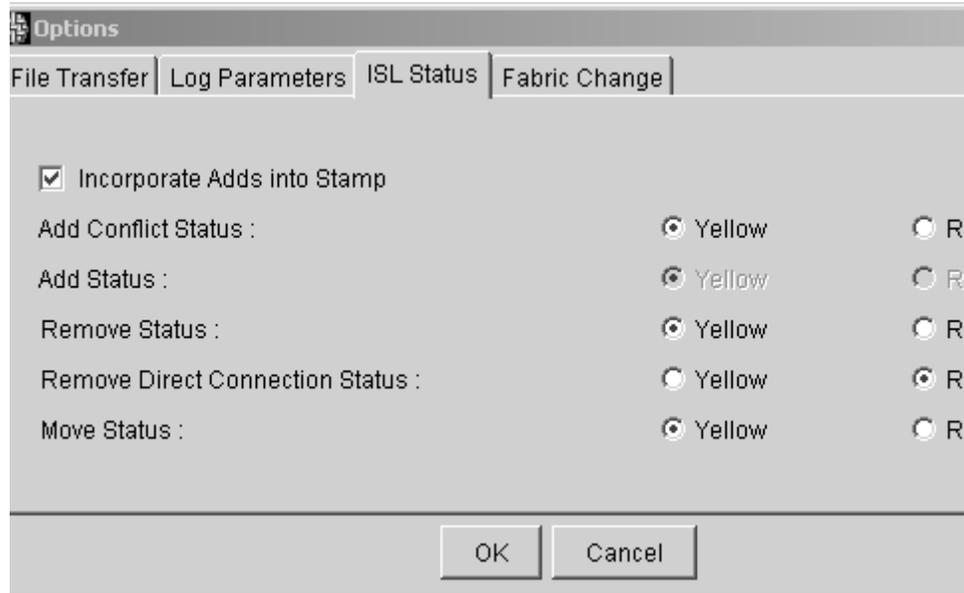

Figure 12: ISL Status tab in the Options dialog box
2. Click **ISL Status** tab. The **ISL Status** tab displays, as shown in Figure 12.